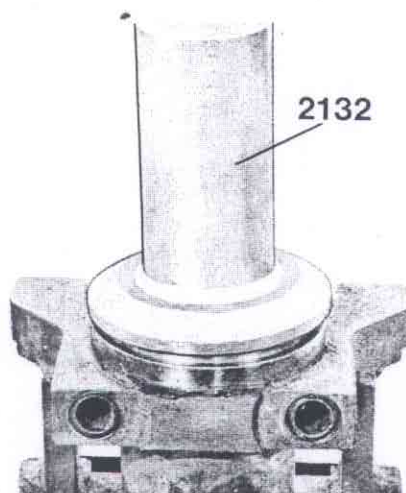

Fig. 76-11. Installing the sealing ring
2. Place the inner axial washer with a little grease on and press in the sealing ring with sleeve 2132, see Fig. 76-11.